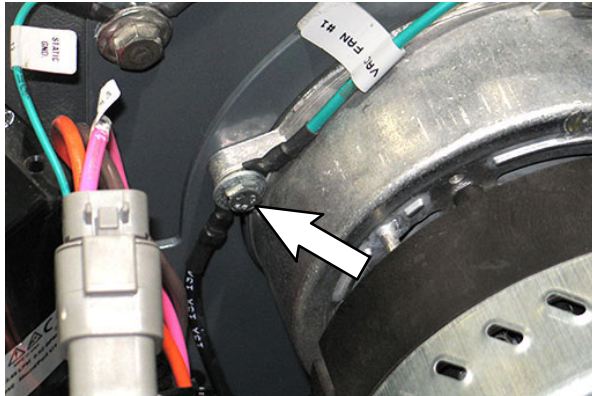

FIG. 10
9. Remove the hardware securing the VAN FAN #1 wire to the hopper vacuum fan. (Fig. 10)
10. Use the removed hardware to connect the green wire (8) and reconnect VAN FAN #1 wire to the hopper vacuum fan. (Fig. 10)